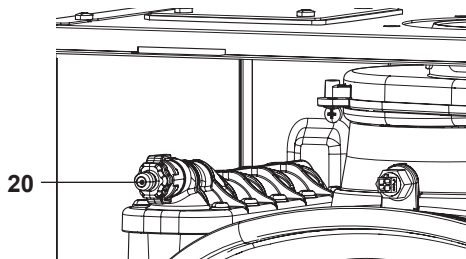

Fig. 10.8
- To help the draining of the primary circuit loose the condensing heat exchanger air purger valve 20 in Fig. 10.8.